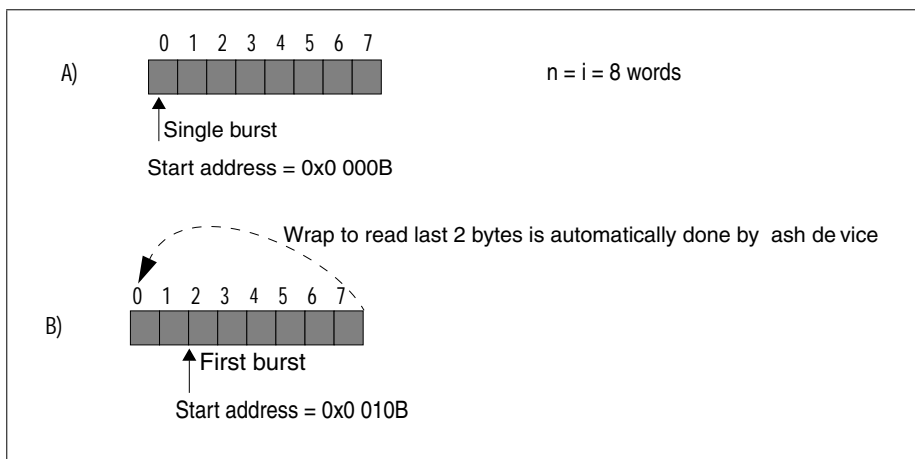

Figure 8: Burst on a flash with a single access
- $n = i$: the EMI performs one burst access during which it gets the exact number of words as requested (see Example A in Figure 8 with $n = i = 8$). Depending on the starting address, there will possibly be a wrap that is automatically completed by the flash device. The wrap happens when the starting address is not aligned on a $[n]$ -byte word boundary.